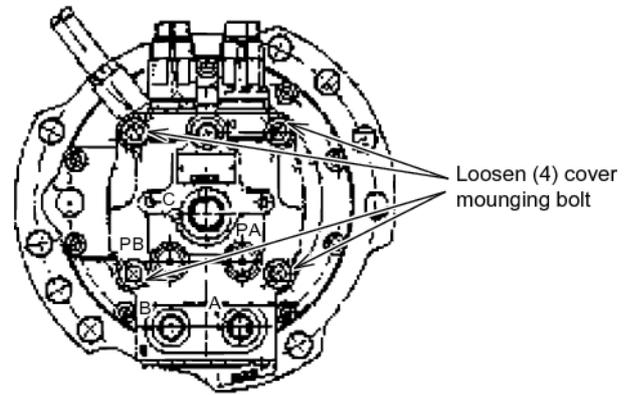

Fig. 8-11
5. Loosen the four top plate mounting bolts with the 14 mm allen wrench. See Fig. 8-11.